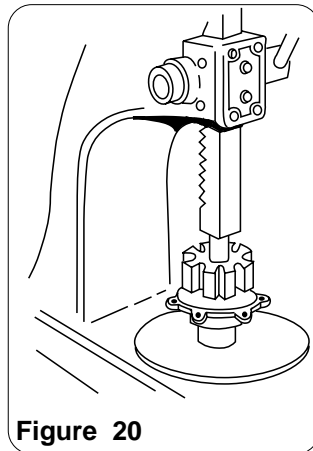

Figure 20
1. Install the Shaft Rotor Assembly by carefully pushing the short end of the Shaft Rotor Assembly through the Shaft Seal into the End Plate. Place in the arbor press with the drive end of the Shaft pointed down. Use the Bearing Support Tool on top of the Bearing and press the assembly together. (Figure 20). Leave just enough clearance between the Rotor and End Plate so that Rotor can be turned by hand. If it turns too freely, sand a little more off the Body end that faces the End Plate. You should notice a slight drag, but be able to turn Shaft with an adapter on it, by hand. The "slight drag" will wear off after the Pump has been used a short time. Installing new Rollers, Seals, Bearings, and Shafts will not prove entirely satisfactory for volume and pressure unless end clearance is taken up.